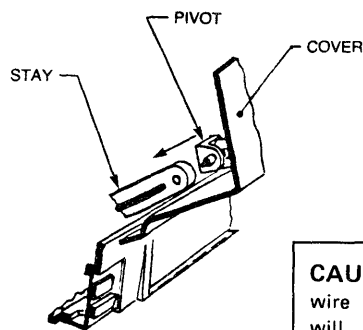

FIGURE 1
1. Lift the cover of Model 820 KSR and disconnect the cover stay (located in right rear of printer) by moving top of stay to right and off of pivot pin attached to cover (see Figure 1). DO NOT let cover open more than 90° to base.